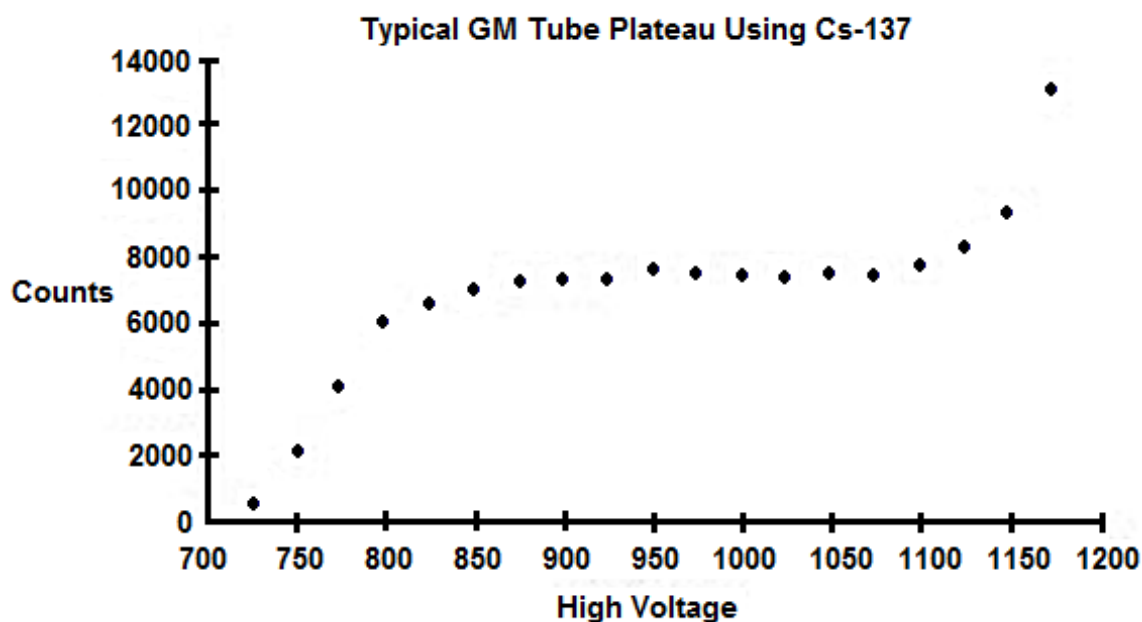

Figure 40
- See Figure 40 for an illustration of a typical detector plateau.